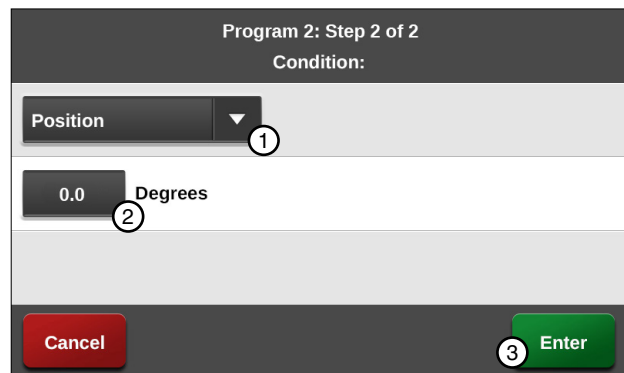

Figure 130-2 1. Position Condition 2. Degrees 3. Enter 4. Start/Stop Command 5. Stop 6. Add Step
4. Program the position condition for this step. Refer to Figure 130-2.